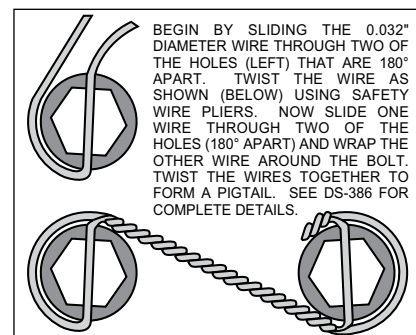

Figure 5. Safety Wire Diagram
- With the larger I.D. side of the rotor (4) facing away from the hat (3), bolt rotor (4) to hat (3) through the backside of the rotor using washers (5) and bolts (6). Apply red *Loctite*® 271 to the bolt threads and torque to 155 in-lb using a criss-cross pattern. For an added measure of security, the bolts may be safety wired using standard 0.032 inch diameter stainless steel safety wire as shown in Figure 5. Please refer to Wilwood's data sheet DS-386 (available at www.wilwood.com/Pdf/DataSheets/ds386.pdf) for complete safety wire installation instructions.